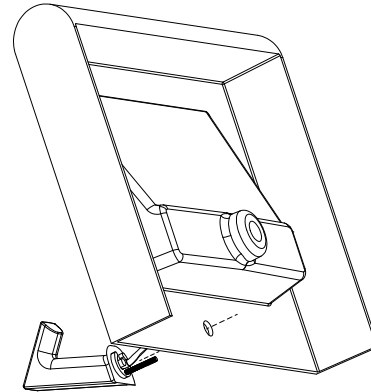

Figure 3
3. Install Faucet spout, (Figure 3) onto sink according to manufacturer's instructions provided with component.